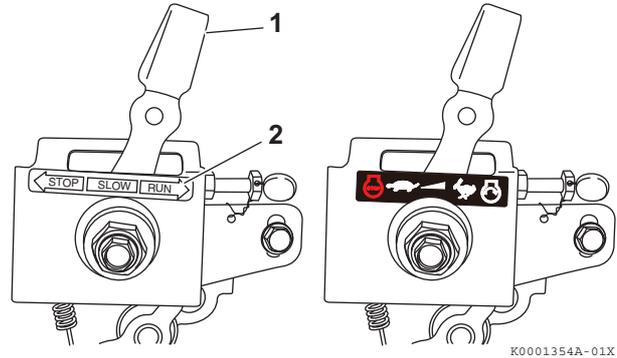

Figure 3
1. If your engine speed control is similar to **Figure 3** slide the engine speed control lever (**Figure 3, (1)**) to the RUN position (**Figure 3, (2)**).